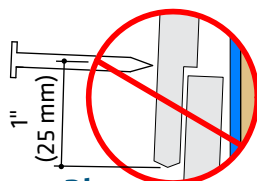

Figure 3b
- Avoid nailing 1" from the bottom edge of the board. (Figure 3b)